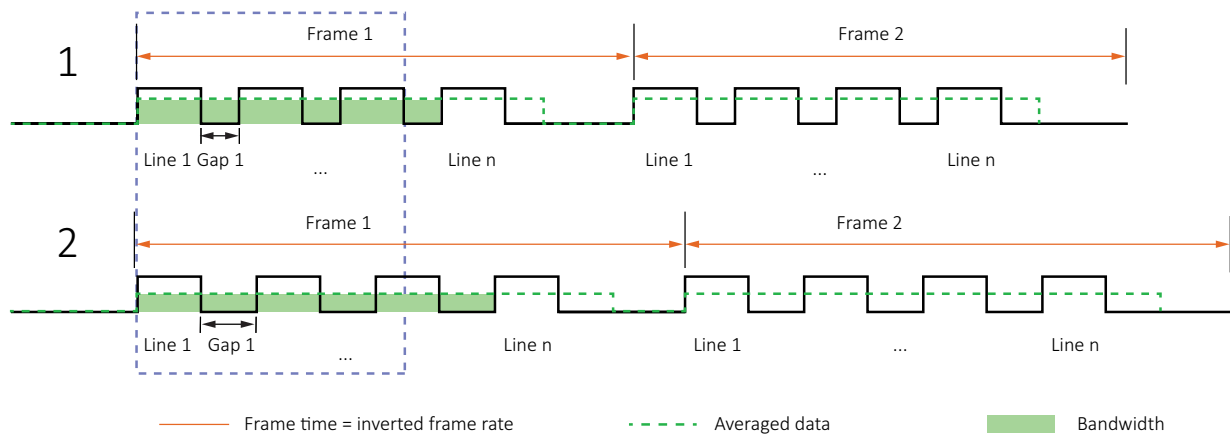

Figure 129: Sensor data output and camera data output
Figure 129 shows the bandwidth for a higher (1) and a lower (2) value for `DeviceLinkThroughputLimit`.